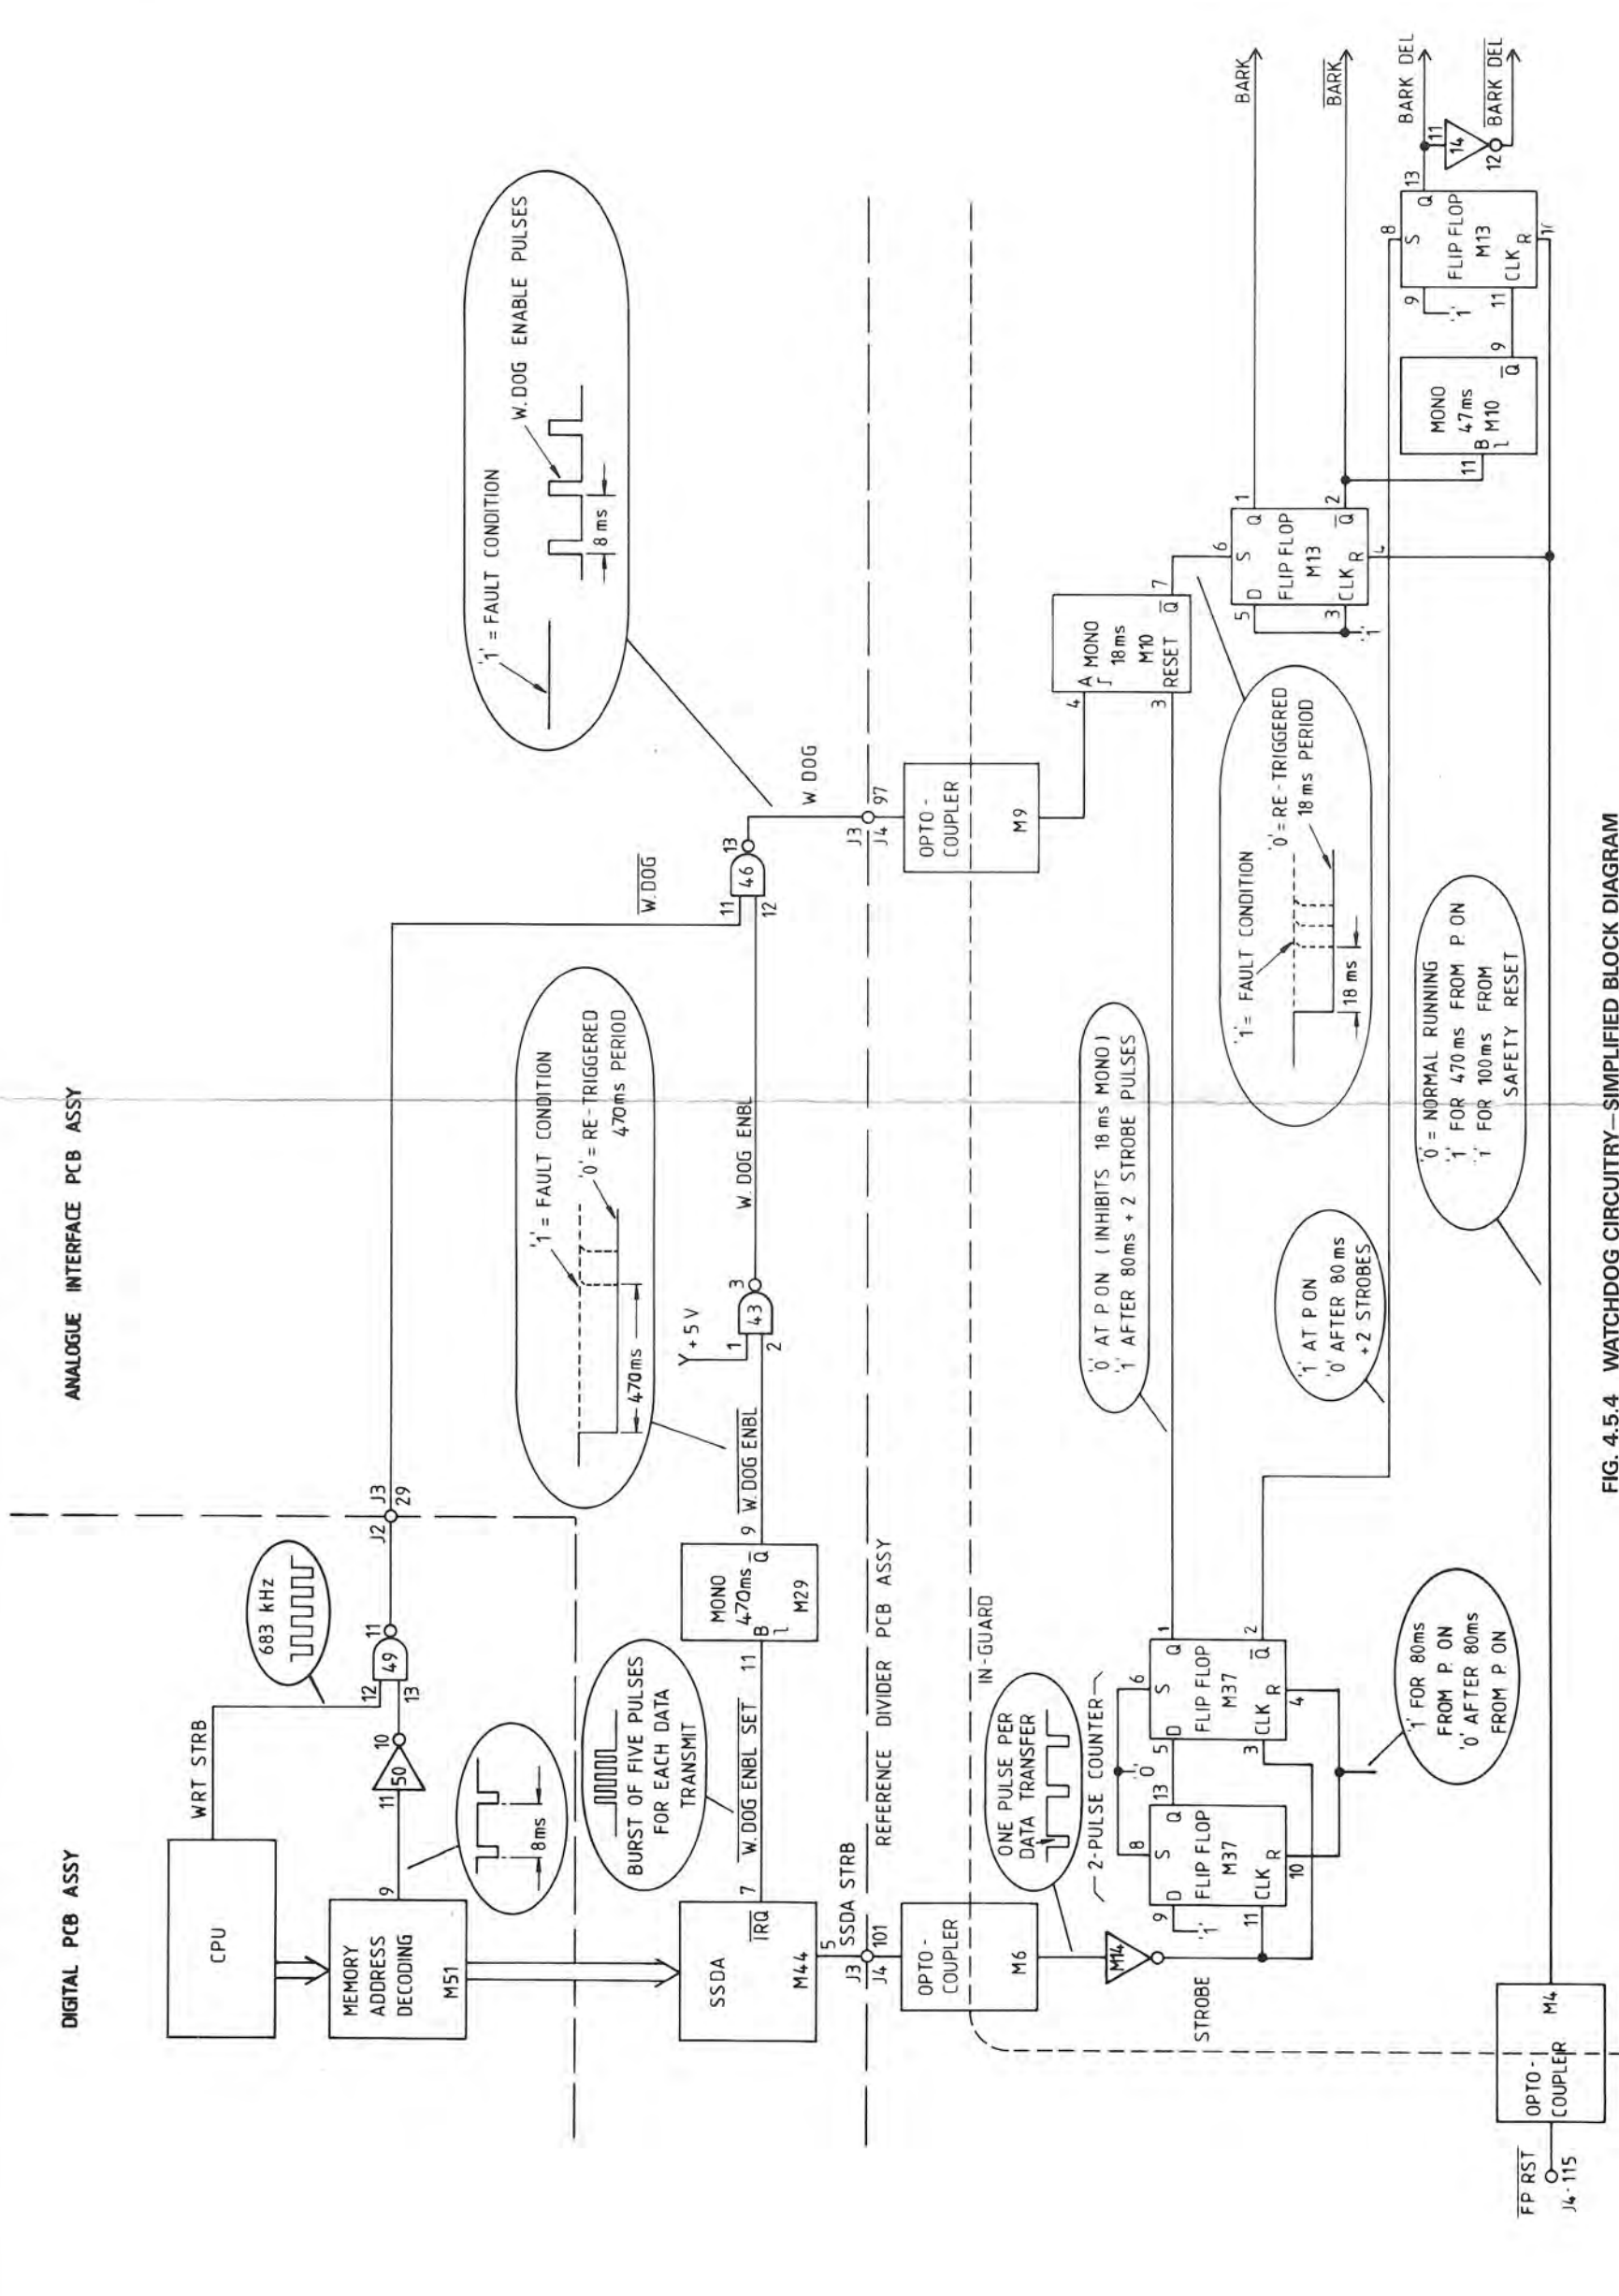

FIG. 4.5.4 WATCHDOG CIRCUITRY—SIMPLIFIED BLOCK DIAGRAM
(Fig. 4.5.4)
4.5.6.4 Malfunction (Fig 4.5.4)